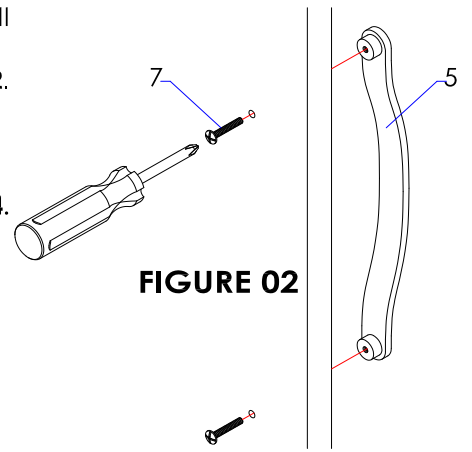

FIGURE 02
- For packing purpose, the handles were removed and put in hardware bag. Open all doors, attach the door handle (5) to the door by using the Phillips head bolts (7) provided. Repeat this steps to attach handle for another door. Refer to **FIGURE 02**.